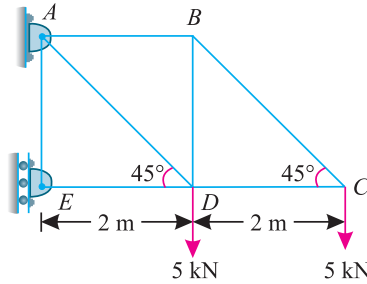

Fig. 12.38.
3. A cantilever braced truss supported on rollers at  $E$  and hinged at  $A$  is loaded as shown in Fig. 12.38.